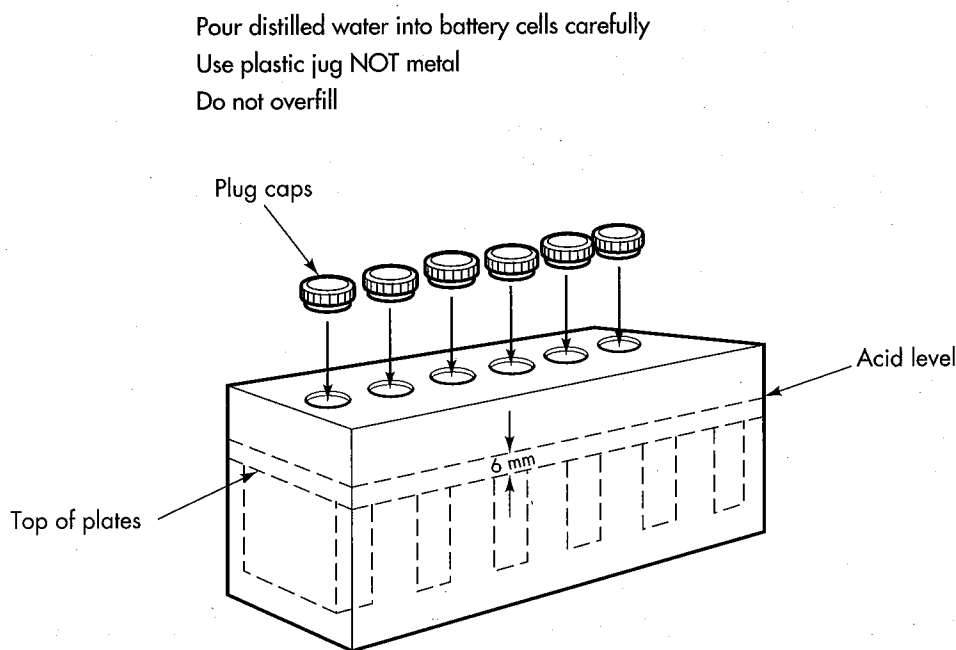

Figure 9: Topping up acid (electrolyte)
- remove vent caps and check that the acid level is approximately 6mm above the battery plates (Figure 9)